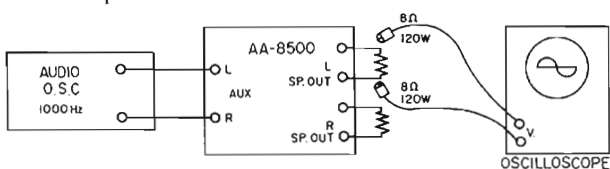

Fig. 1
- Connect an 8Ω 120 W resistor to the left and right channel speaker terminals, and connect the oscilloscope across this resistor (see Fig. 1).
- Connect instruments as shown in Fig. 1 and use a VTVM in place of the oscilloscope.